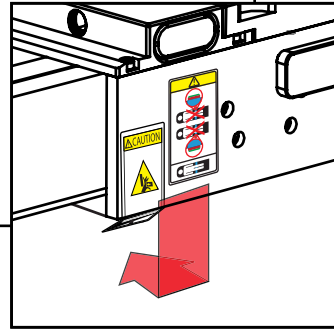

Fig. 25
- b. When applying decals the dashed line should be collinear with the bottom edge of the kVue and then folded to adhere to the bottom of the Cover as shown in Fig. 25.